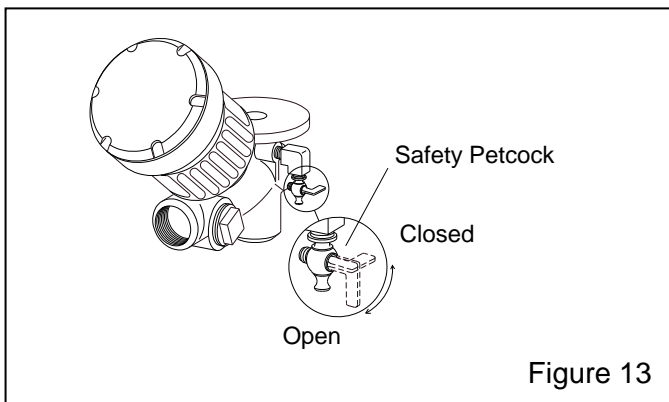

Figure 13
4.1.1.4 Open the safety petcock on the Millennium inlet valve. The valve is open when the lever is in-line with the petcock, as shown in Figure 13.